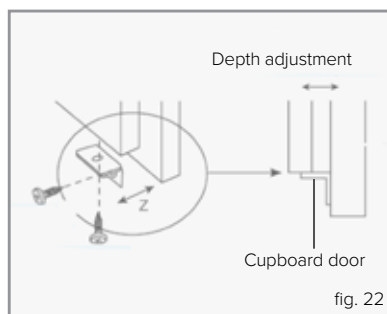

fig. 22
1. Loosen the depth adjustment screw (C).
2. Move the fascia in or out, as required; this gives an adjustment of approximately 3mm. the lower fascia brackets are slotted to allow alignment of the fascia at the bottom. This is shown in figure 22.